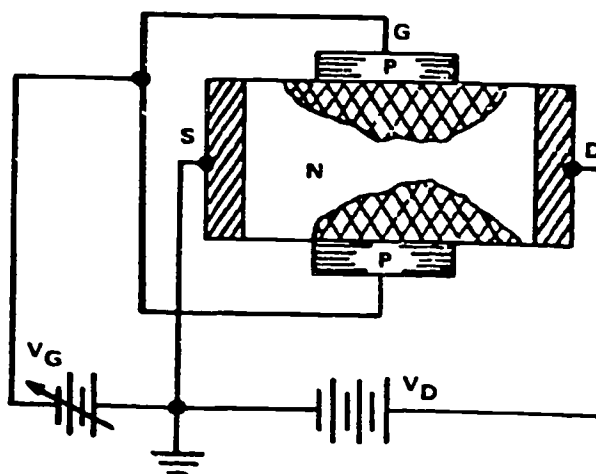

Figure 1-3. FET biasing.
With reference to figure 1-3, we will consider the DC voltages applied to the FET. Battery V_D (Drain voltage) is the source-to-drain voltage supply and causes electron current to flow through the N-type material from the source to the drain. This voltage is dropped across the internal resistance of the N-type block, setting up a potential gradient from left to right. Battery V_G is the gate bias voltage and is applied to both P-type gates. It is easily seen that the gates are at some negative potential with respect to the source. The potential at any point in the block is positive with respect to the source. The potential at any point in the block is positive with respect to the gate. This constitutes a reverse-bias condition. Progressing across the block from source to drain, the voltage becomes increasingly positive. As a result, the potential difference between the gate and block is less at the end of the block near the source than it is at the drain end. Hence, the shape of the depletion regions is as shown in the figure. Since the two depletion areas are devoid of current carriers, the electrons flowing through the block are directed, or *channeled*, into the area between the depletion regions. This is referred to as the conduction channel.
5. In text figure 1-3, why is electron flow directed between the depletion regions?